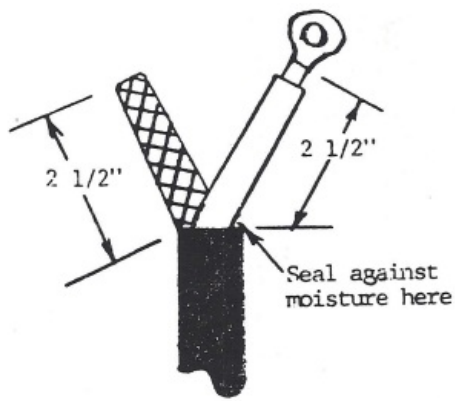
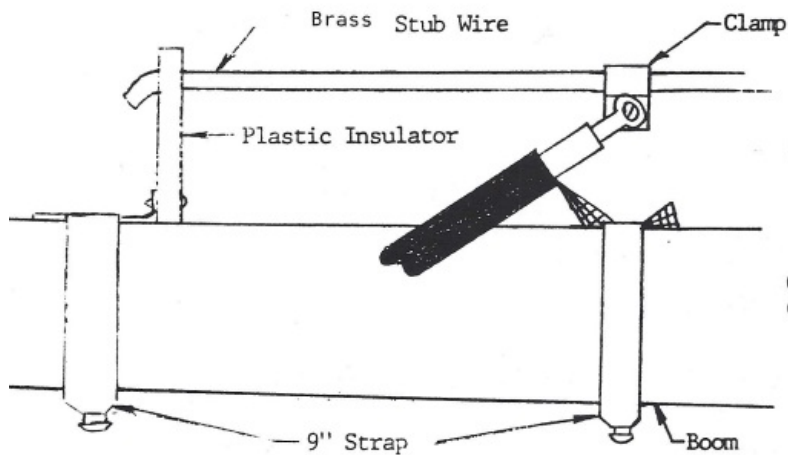

figure 12
Figure 13a- Coax attachment to Brass Stub Wire
12. Prepare your two 50-ohm coax cables as shown in fig. 12 below. The crimp terminals are simply crimped to the coax center conductor, however, soldering is recommended in addition to crimping. One coax line is attached to each stub wire as shown in Fig. 13a,b below. A good starting point for the attachment of the coax to the stub is about 2" in from the insulator. The coax center conductor goes to the bare stub wire, and the braid simply is clamped directly to the boom, directly opposite the center conductor point of attachment, using a 9" strap.